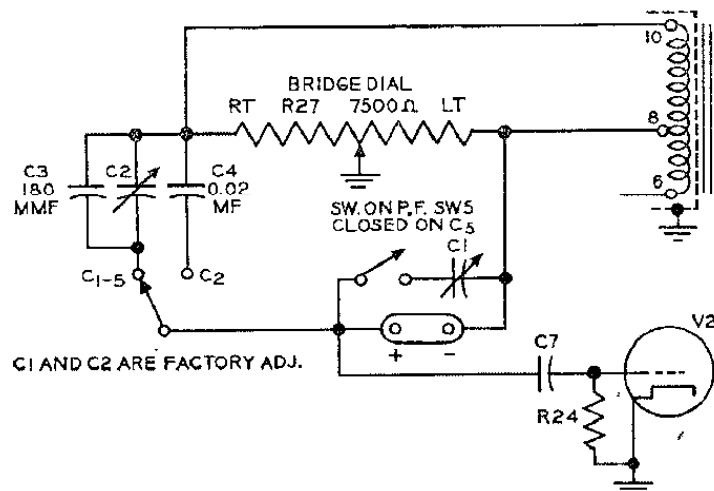
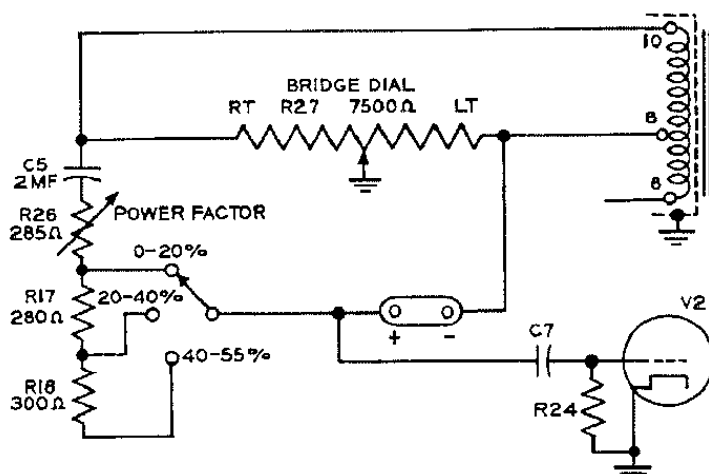
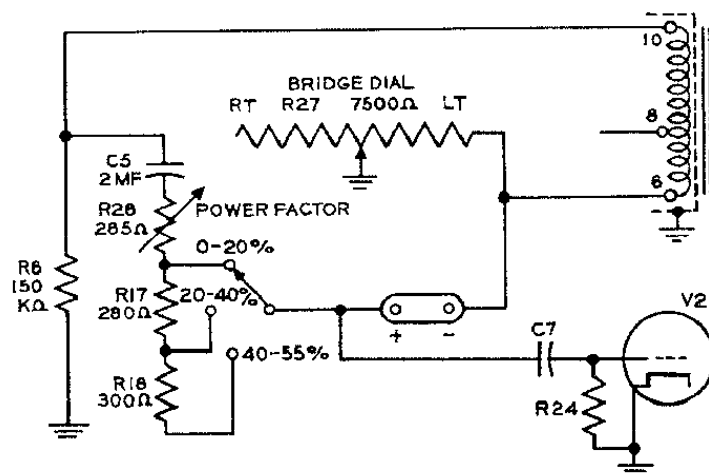

FIGURE 1
FIGURE 2
FIGURE 3
2.1 Measurements of capacitance from 1 mmf to 2000 mf are made on a 5-range line frequency capacitance bridge. Figure 1 shows a simplified circuit diagram of the bridge employed for the C_1 , C_2 , and C_5 ranges. Figure 2 shows the basic bridge circuit for the C_3 range and Figure 3 is the simplified circuit for the C_4 range. Since the bridge is balanced on all ranges by continuously varying the ratio arm, a highly accurate, linear-taper wirewound variable resistor is used for the main bridge element, R_{27} . These potentiometers are especially selected in order to assure accurate matching of the calibrated scales over their full length. The standard capacitors for the C_1 and C_5 ranges are silvered mica capacitors paralleled by silvered ceramic trimmer capacitors which are factory adjusted to compensate for variations in the inherent wiring capacitance. The standard on the C_2 range is a matched pair of molded Black Beauty Telecap® paper tubulars while the standard on the high capacitance C_3 and C_4 ranges is a matched pair of special paper capacitors. The bridge balance or null detector is a high sensitivity "magic-eye" 1629 tube.